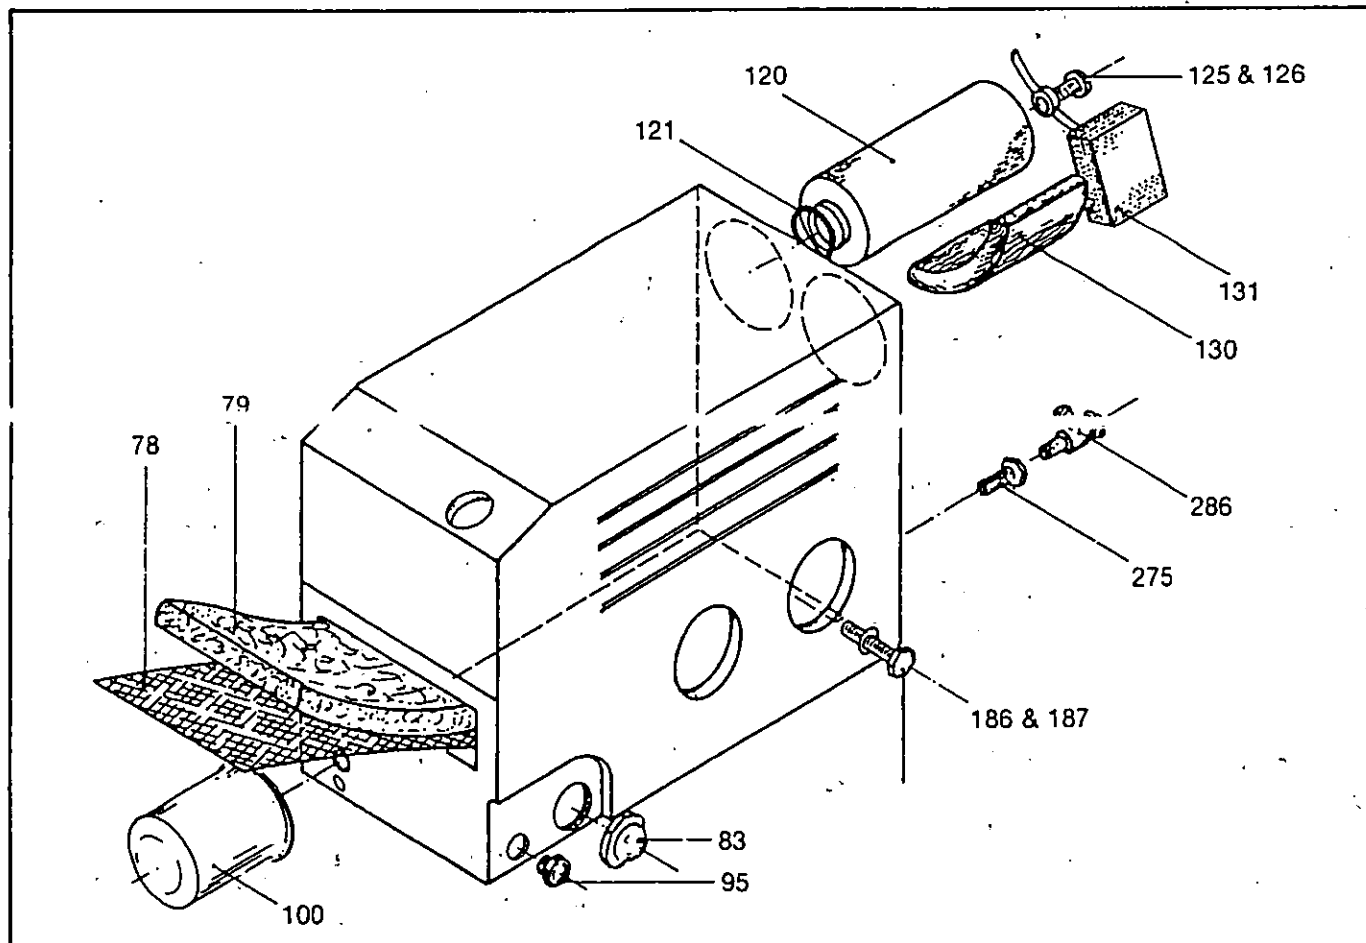

FIG. 3. EXHAUST BOX COMPONENTS INSTALLATION (100 model shown)
3.2.1 Exhaust Filters (Figure 3)